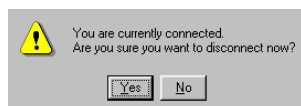

Figure 19: HyperTerminal dialog box (1)
12. Choose **Exit** from the **File** drop-down menu. A HyperTerminal dialog box displays, as shown in Figure 19.